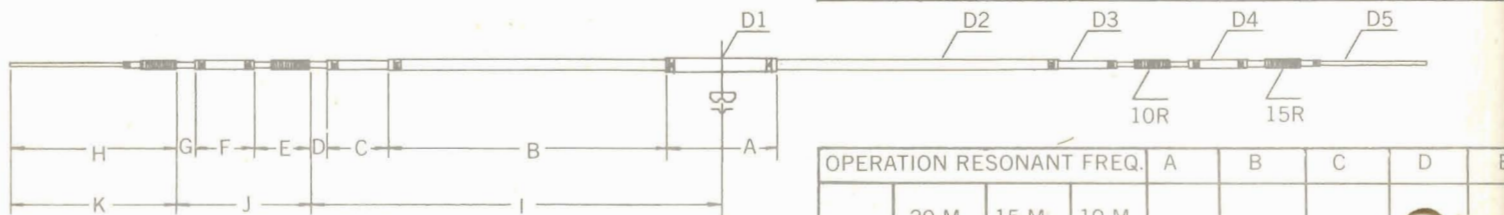

FIGURE 3 DIRECTOR
**DIRECTOR ELEMENT:** These elements are also bundled together. The director is spaced 87 inches center to center from the driven element (Plus or minus an inch). See Figure 3.